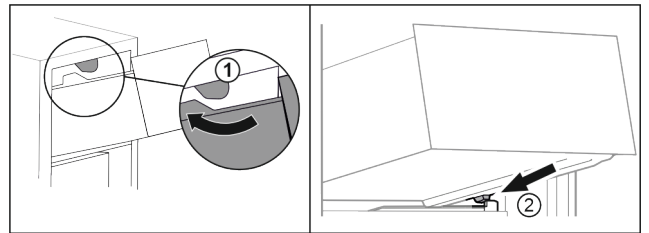

Fig. 133
- Guide drawer around the upper stoppers. Fig. 133 (1)
- Place drawer at an angle behind the lower stoppers onto moulded rib. Fig. 133 (2)